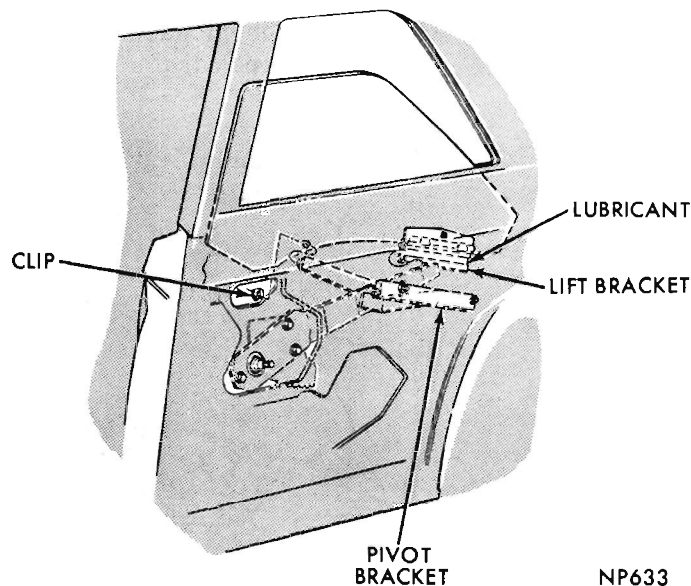

Fig. 37—Quarter Window Replacement—Sedan
- (1) Lower glass and through front access opening, remove clip from regulator arm stud pin (Fig. 37).
- (2) Pull regulator arm stud out of bushing.
- (3) Push up on front of glass, while holding arm stud until front of glass is clear of stud.
- (4) Raise and rotate front of glass until lift arm bracket clears regulator arm stud.
- (5) Lower glass to bottom of panel, remove outer belt weatherstrip and remove glass assembly from panel.